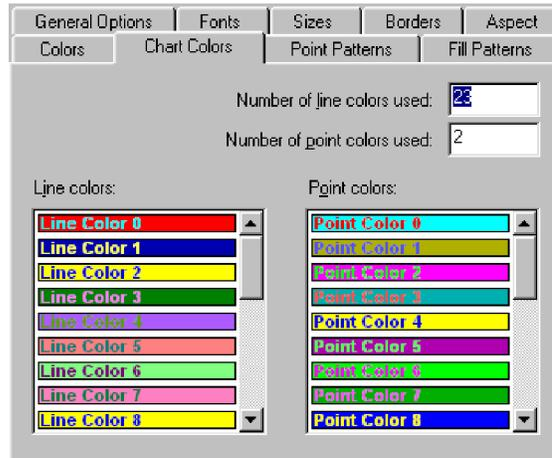

Figure 8.19 Graph Options dialog box: Chart Colors tab
- 2 In the **Graph Options** dialog box, click the **Chart Colors** tab (Figure 8.19).